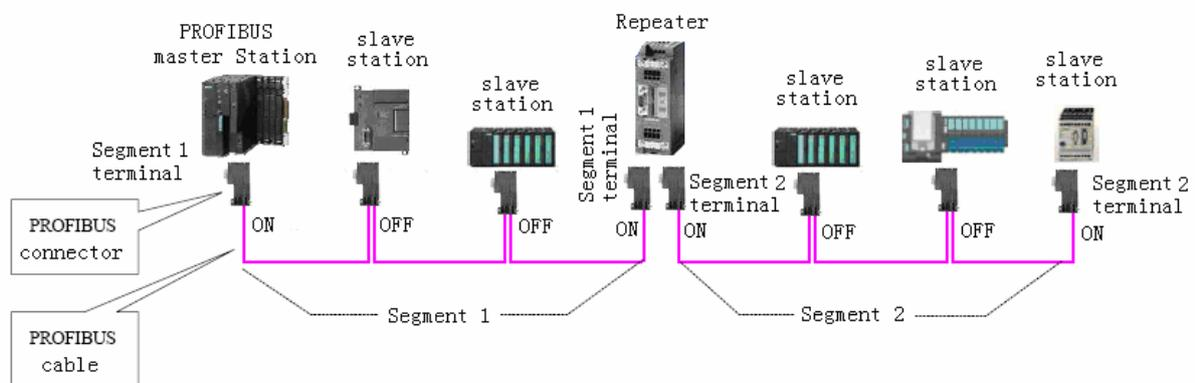
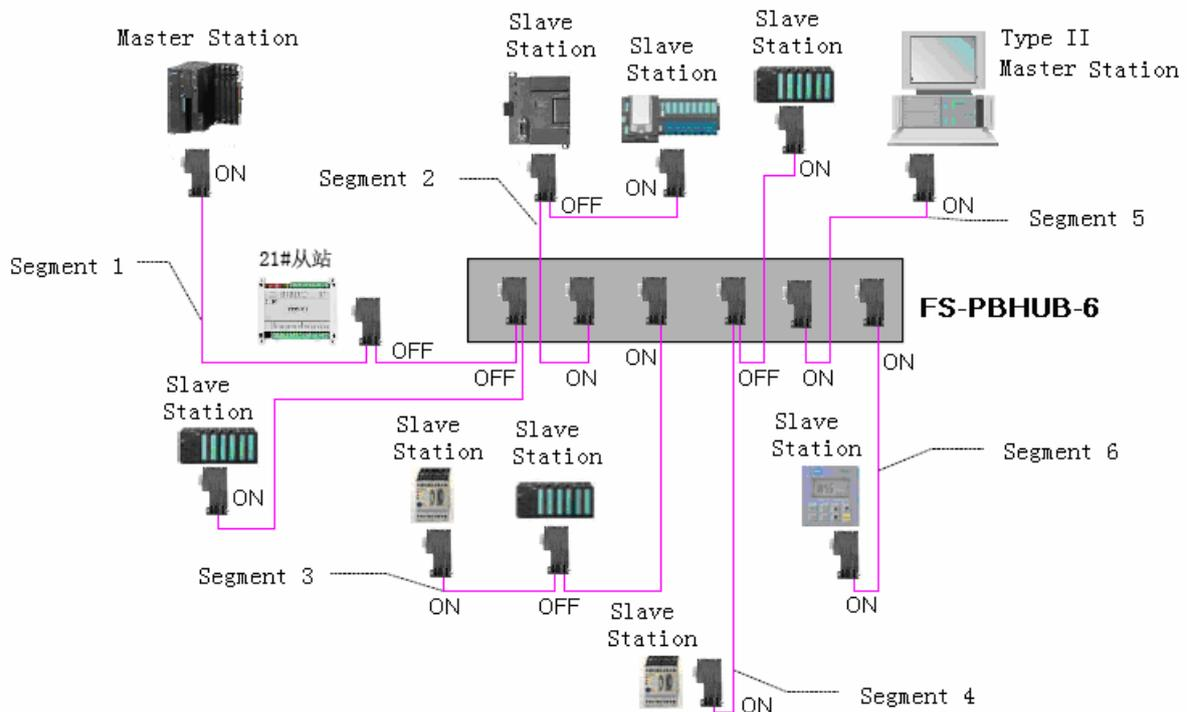

Fig.1-1 PROFIBUS fieldbus adopts bus network topological structure
Fig. 2-1 Achieve PROFIBUS star and hybrid network topology structure by using hub
1. As regulated in PROFIBUS Standards, bus network topology is adopted when RS485 is signaled. Network components like repeater and connector, and concepts like network segment, terminal, etc, are also presented in the Standards. As shown in Fig. 1-1, the repeater cuts the bus into Segment 1 and Segment 2, and the head and end of each segment are called terminals.
1. Functions of a hub: change PROFIBUS network bus topology structure to achieve star and hybrid network structure and facilitate wiring. It is very convenient to use special PROFIBUS cables and plugs to achieve bus connection among stations (see Fig. 1-1), but it is difficult to achieve the network requirement of PROFIBUS star and hybrid topology structure. PROFIBUS Hub can facilitate the materialization of PROFIBUS star and hybrid topology structure. See Fig. 2-1.